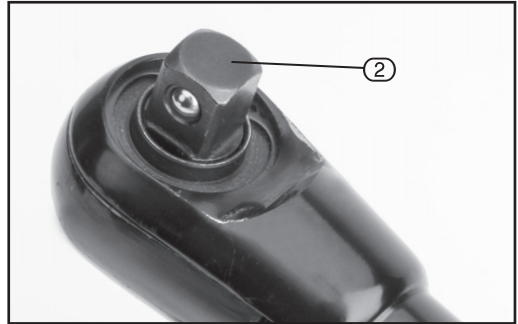

FIG.6
10.4 ANVIL - FIG. 6
- Ensure the socket correctly locates on the anvil (2) firmly engaging on the locating ball.